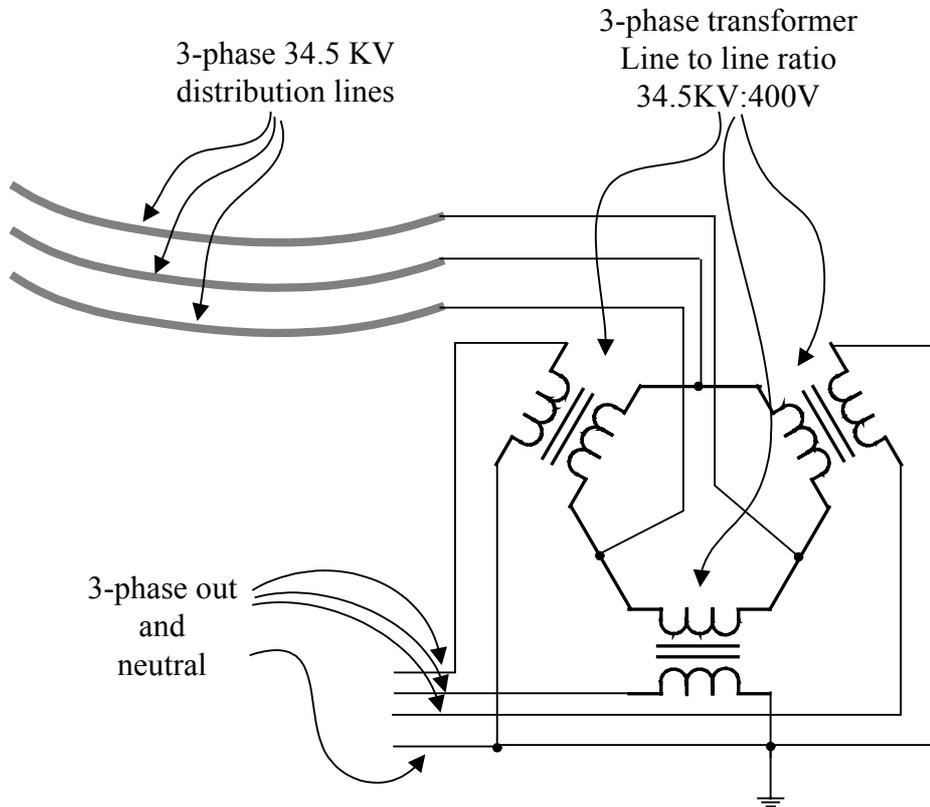

Figure 2.29 MV to LV transformer
The potential difference between the phases is therefore 1.73 times larger than any one of phase voltage with respect to neutral. The line voltage level is 380-400 Vrms for a phase voltage of 220 V. The last step-down from MV to low voltage (LV) is depicted in Figure 2.29 below.
A typical MV to LV transformer configuration is given in Figure 2.29. The three phase line voltage of 34.5 KV MV is connected to the primary windings of a three phase transformer, which is connected in a " $\Delta$ " configuration. The secondary terminals are LV terminals, and three windings are now configured in a " $Y$ " form.